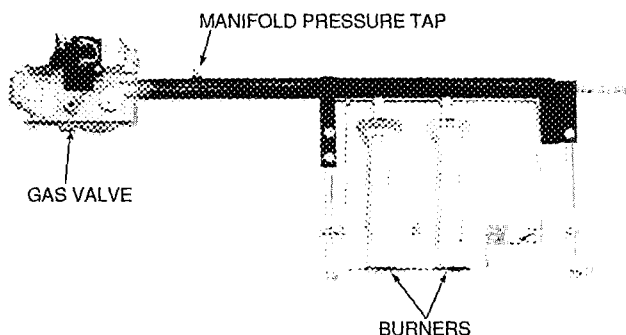

Fig. 34 - Burner Tray Details
12. Slide the burner tray out of the unit. (Fig. 34)